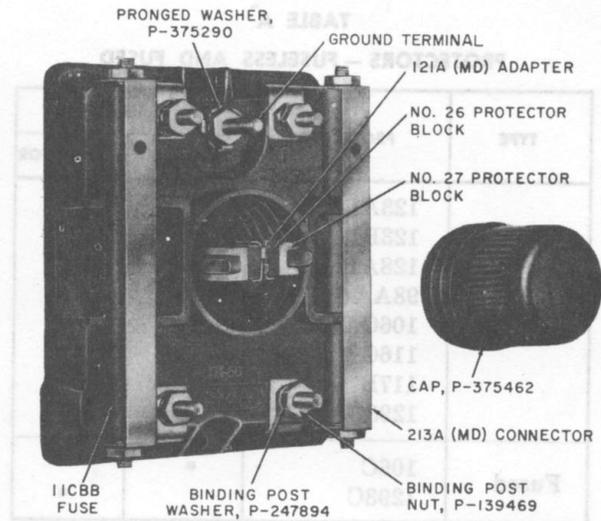

Fig. 6—98AA (MD) Protector
**2.03** The 98AA (MD) protector (Fig. 6) provides protection for one pair of wires served from grounded metal sheath cables. It is not to be used at stations served by open wire.